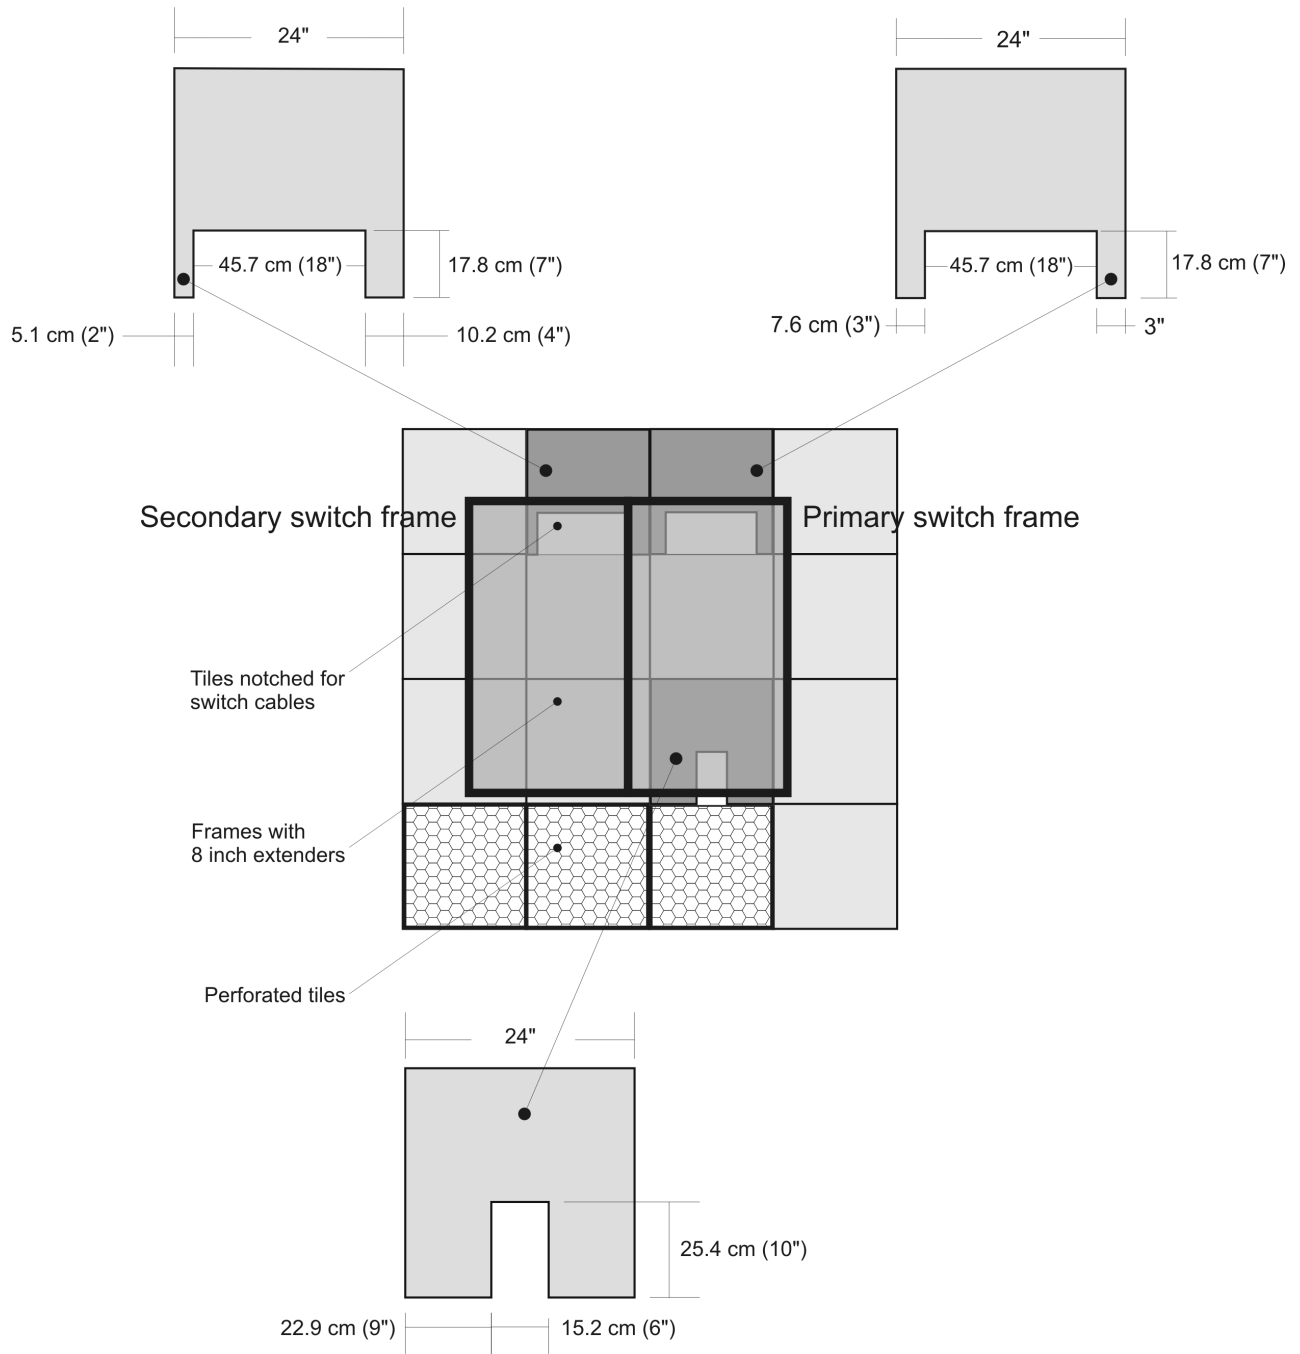

Figure 52. Floor tile cutout patterns for a switch-only frames with eight inch frame extenders.
Figure 52 on page 301 shows the recommended floor tile cutout patterns for frames with either one or two switches installed. Cutout locations will vary for stringer and non-stringer floors. However, the cutouts shown in Figure 52 will work for both floor types. A non-stringer floor does not allow corner cuts unless you place additional support pedestals under the tile to provide the support taken away by cutting off the corner of the tile. The pattern used in Figure 52 avoids corner cuts. The illustrated patterns are valid for both 24 inch (610 mm) and 23.6 inch (600 mm) tiles.
2. Center the primary frame over one tile set as shown in Figure 52.
4. Set the primary frame and the secondary frame approximately 50 mm (2 inches) back from the edge of the perforated tiles as shown in Figure 52 on page 301.